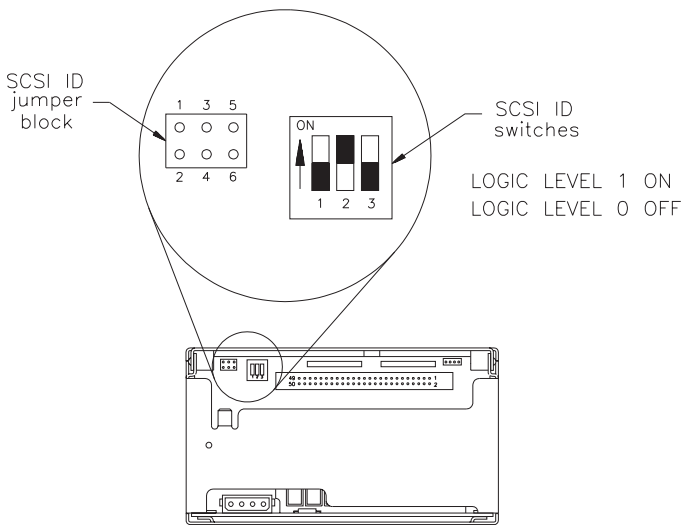

Figure 1 SCSI ID DIP switches and jumper block
1. Locate the SCSI ID DIP switches on the back of the tape drive, as shown in Figure 1.
1. Locate the SCSI ID jumper block on the back of the tape drive, as shown in Figure 1.
4. Make sure that the DIP switches (Figure 1) are set to a SCSI ID of 0.